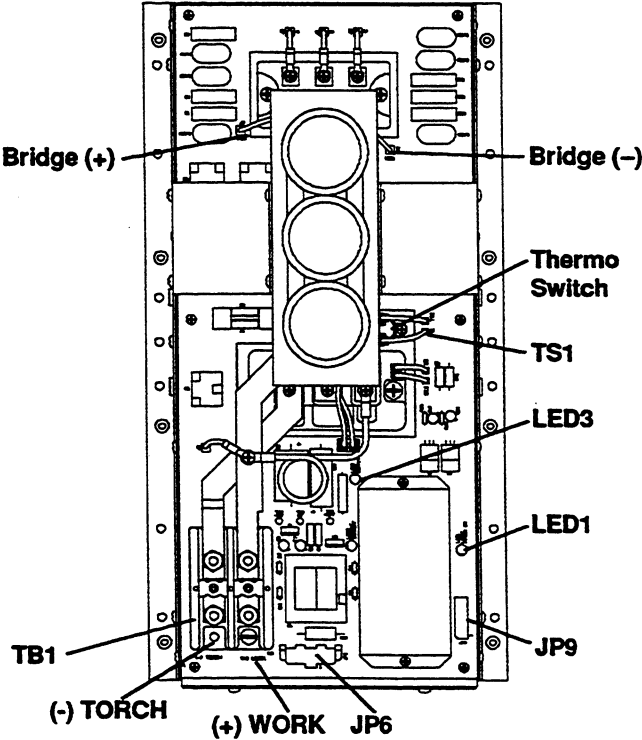

Figure 5-10 CH130 Chopper Module - Front View
3. Place the positive lead to the + side of the bridge and the negative lead to the - side of the bridge. See Figure 5-10. Note that actual connection points are hidden by the cap support bracket in Figure 5-10.
5. If voltage from step 4 is +280 VDC and corresponding fuse is not blown, check the chopper output at TB1 by placing the positive lead of the voltmeter at the (+) WORK terminal (#48A output cable) and the negative lead at the (-) TORCH terminal (#39A output cable). See Figure 5-10.